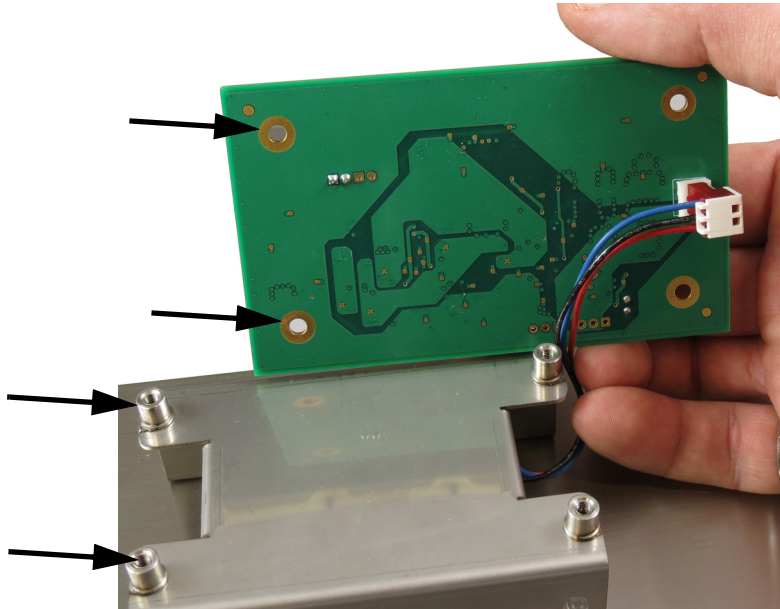

Figure 9 Connecting battery pack to charger PCB
4. Plug the connector from the battery pack into the connector on the back of the charger PCB, Figure 9.
5. Align the holes in the corners of the charger PCB to the studs on the battery bracket and use the four supplied pan head machine screws to secure the PCB to the studs. See Figure 9.